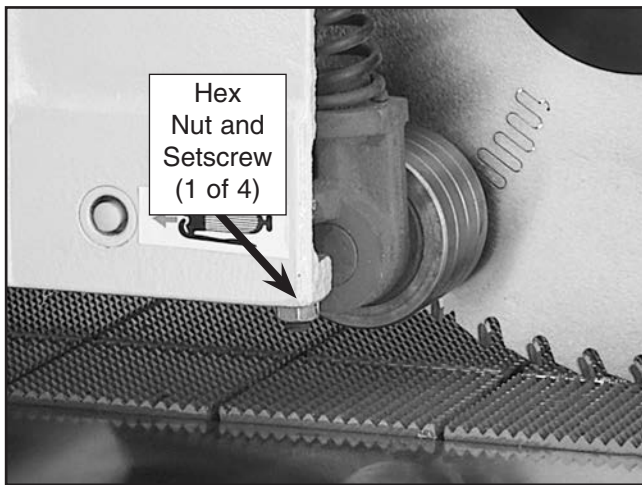

Figure 26. Hex nut.
1. Using a 13mm wrench, remove the 4 hex nuts from the setscrews on the underside of the head casting (**Figure 26**).